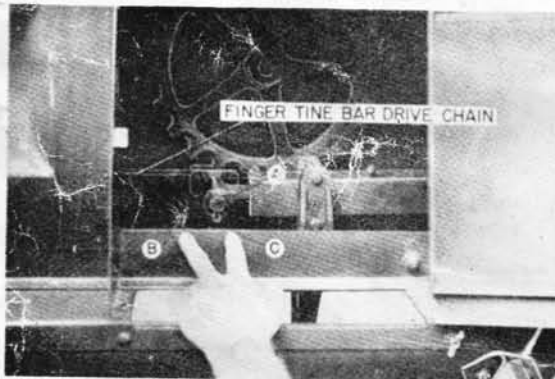
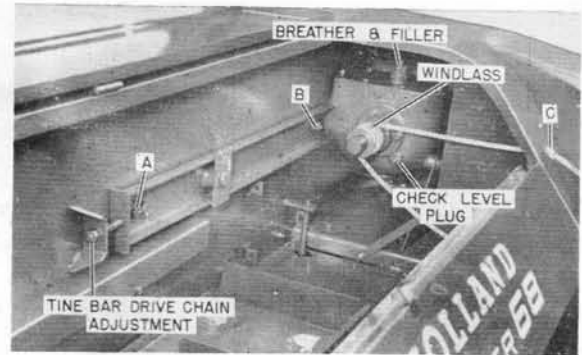

FIGURE 24
FIGURE 24A
At this time the tine bar drive pivot, point A, Figure 24, should be between the two timing marks at points B and C, on the rear feeder support angle.
If the tine bar drive pivot is not between the timing marks as shown in Figure 24, the tine bar assembly is out of time and must be re-timed.
4. Move the tine bar into the position shown in Figure 24.
The feeder tine bar drive chain, see Figure 24, should be kept tight at all times. To adjust it, loosen bolts A and B Figure 24A and adjust at indicated "Tine bar drive chain adjustment". When this chain is properly adjusted it can be deflected  $\frac{5}{8}$ " midway between the sprockets using a force of 100 pounds.